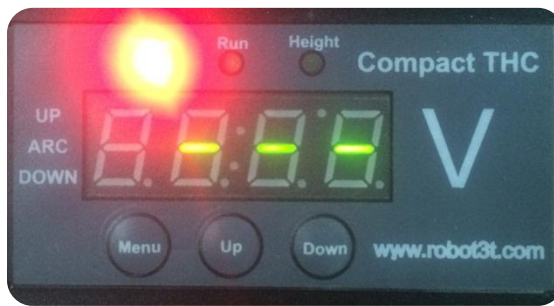

Fig15. Area for control parameter
- Step 8: Press “menu” button to select work-screen (fig.15-page.11) and turn on plasma to using.